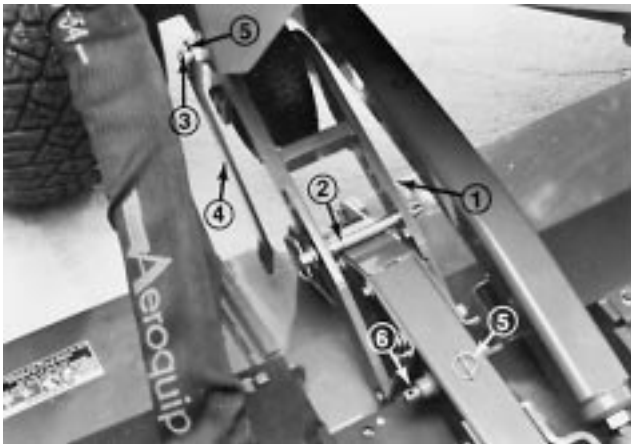

Figure 59
3. Remove hairpin cotter and clevis pins from the (2) rear castor assemblies (Fig. 58). Set the left hand clevis pin aside and insert the right hand clevis pin into the most forward holes in the castor wheel arm on the right side of the unit (Fig. 59). The castor arm and pin should be resting on top of the unit.
- Fit deck tilt link over weldment on the right side of traction unit and secure with klik pin. Position link so it clears when cutting unit is raised. Keep remaining klik pin handy to secure opposite end of link to cutting unit arm weldment (Fig. 59).